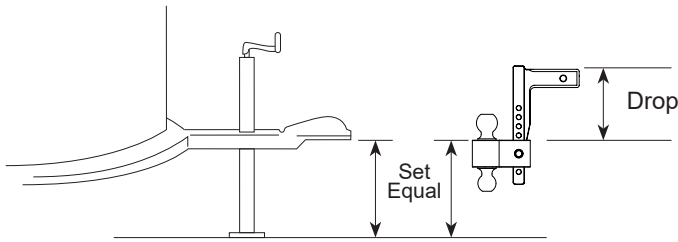

Figure 2
4. Measure from the ground to the bottom of the coupler on the trailer, then pin the ball holder into place on the drop bar at that height, with the correctly sized hitch ball for your trailer coupler facing up. **See Figure 2.** You may need to invert the drop bar and use it in the rise position to reach the correct ball height for your particular trailer.
Figure 2: Top of ball holder height should initially be set equal to the bottom of the coupler socket height with the trailer parallel to the ground, then **adjusted upward** to compensate for the distance it drops when the tongue weight is being carried.